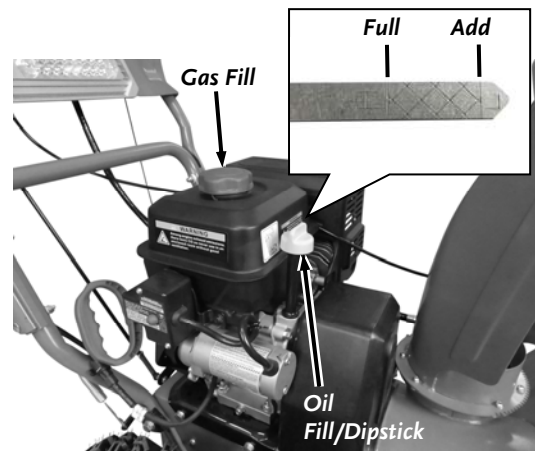

Figure 25
1. Position the machine so the Frame and Engine are level. Remove the Oil Fill/Dipstick (**Figure 25**) and clean the end of it with a rag.
6. Remove the Gas Fill Cap and fill the Gas Tank with fresh, unleaded gas (with a minimum of 85 Octane) to approximately 1" to 1-1/2" below the top of the fill neck to allow for fuel expansion (**Figure 25**). Be careful not to overfill and ensure you reinstall the Gas Fill Cap before starting the engine. See your Engine Owner's Manual for more detailed information.